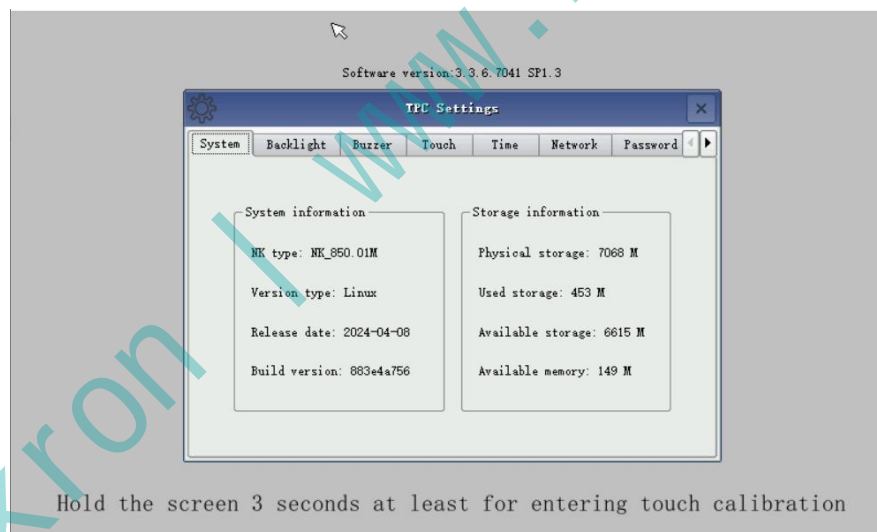

Figure 7.26: TPC System Settings Interface
- 3) Once you have successfully accessed the system configuration interface, please click "System Parameter Configuration." Upon clicking, the "TPC System Settings" interface will appear (as shown in Figure 7.26).